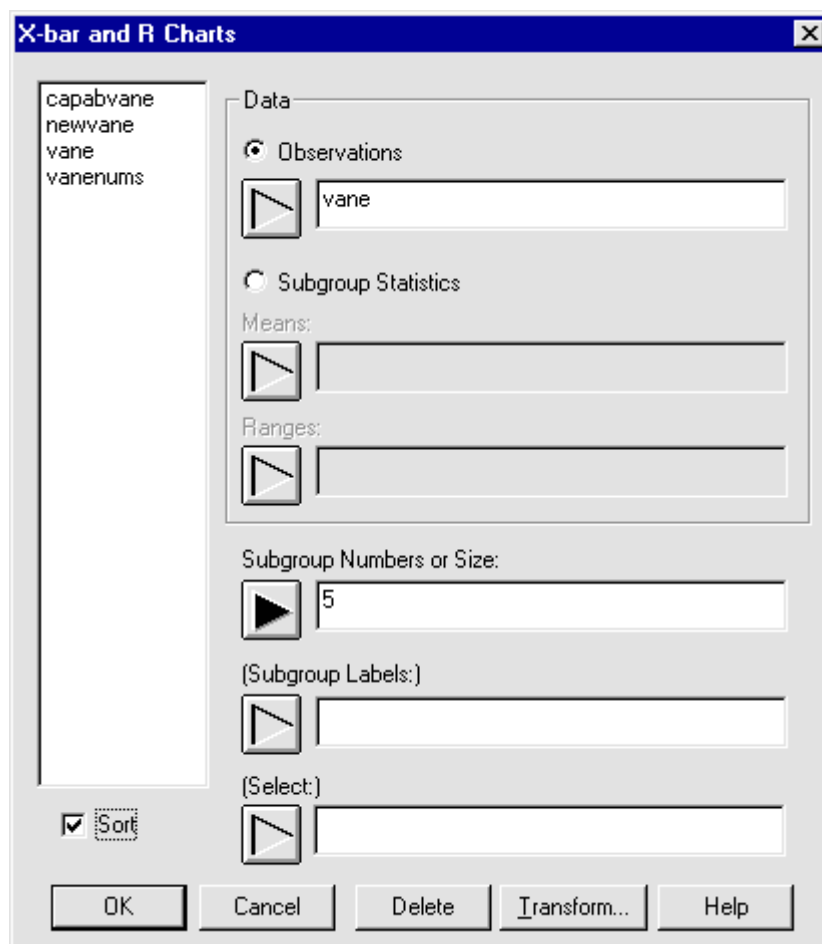

Figure 1-1. Completed Analysis Dialog Box
3. Place the mouse pointer in the Subgroup Numbers or Size text box, then type, **5** (see Figure 1-1).